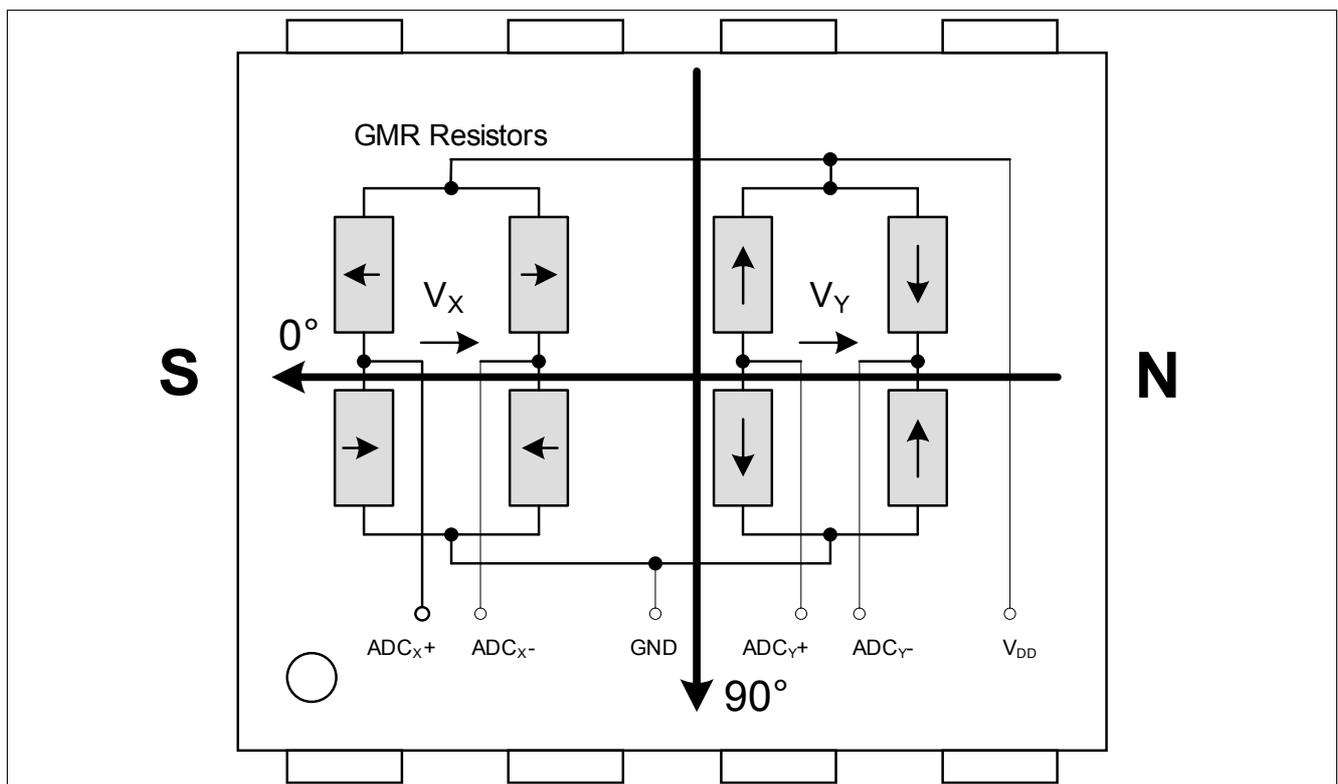

Figure 2-2 Sensitive bridges of the GMR sensor (not to scale)
**Attention:** Due to the rotational placement inaccuracy of the sensor IC in the package, the sensors  $0^\circ$  position may deviate by up to  $3^\circ$  from the package edge direction indicated in Figure 2-2.
In Figure 2-2, the arrows in the resistors represent the magnetic direction which is fixed in the reference layer. If the external magnetic field is parallel to the direction of the Reference Layer, the resistance is minimal. If they are anti-parallel, resistance is maximal.